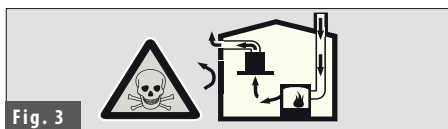
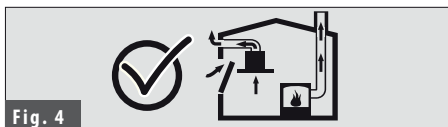

Fig. 3
Fig. 4
- ▶ There are life-threatening danger and poisoning danger due to reabsorbed combustion gases. During the air discharge outlet use, unless sufficient air supply is provided, do not use the appliance simultaneously with devices that discharge toxic gases through flue such as ventilated, gas, oil, wood or coal burning heaters, shower heaters, water heaters, etc. Fig. 3. Ventilated goods (e.g. gas, oil, wood or coal burning heaters, shower heaters, water heaters) take combustion air from the installation location, and discharge the waste gas through a waste gas system (e.g. flue). When the cooker hood is active, it absorbs air from the kitchen and neighbouring rooms. If adequate air entry is not provided, vacuum emerges. In such a case, the toxic gases are absorbed from the flue and waste gas channel, and are taken into to door again. Fig. 3. Therefore, adequate fresh air ingress must always be ensured. Fig. 4